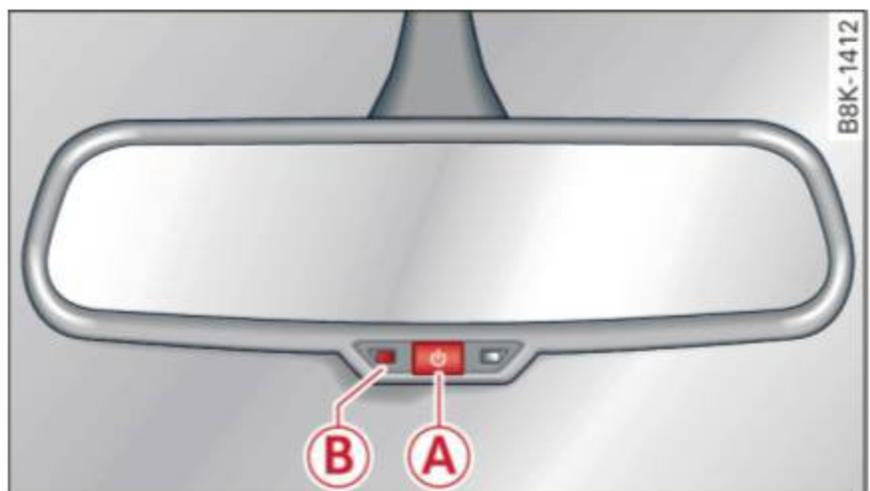

Fig. 44 Automatic dimming rearview mirror*
- ▶ Press the button **A** ⇒ *fig. 44*. The indicator light **B** turns on. The rearview and exterior* mirrors dim automatically when light shines on them, for example from headlights on a vehicle to the rear.